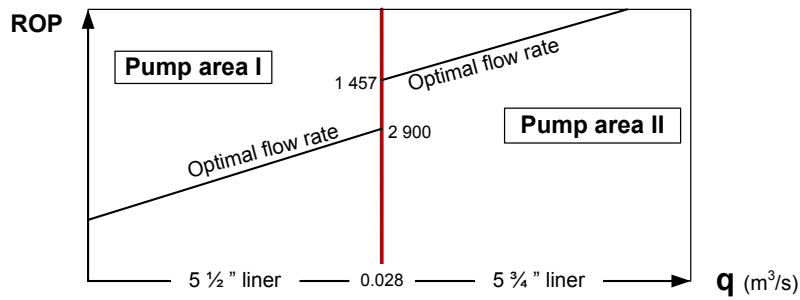

Figure 4-7.1: Boundary area between pump area II and I.
b) In Figure 4-7.1 we see the division between the two pump areas. A preliminary solution of how to distinguish between them is given in Figure 4-8.2, its upper part.